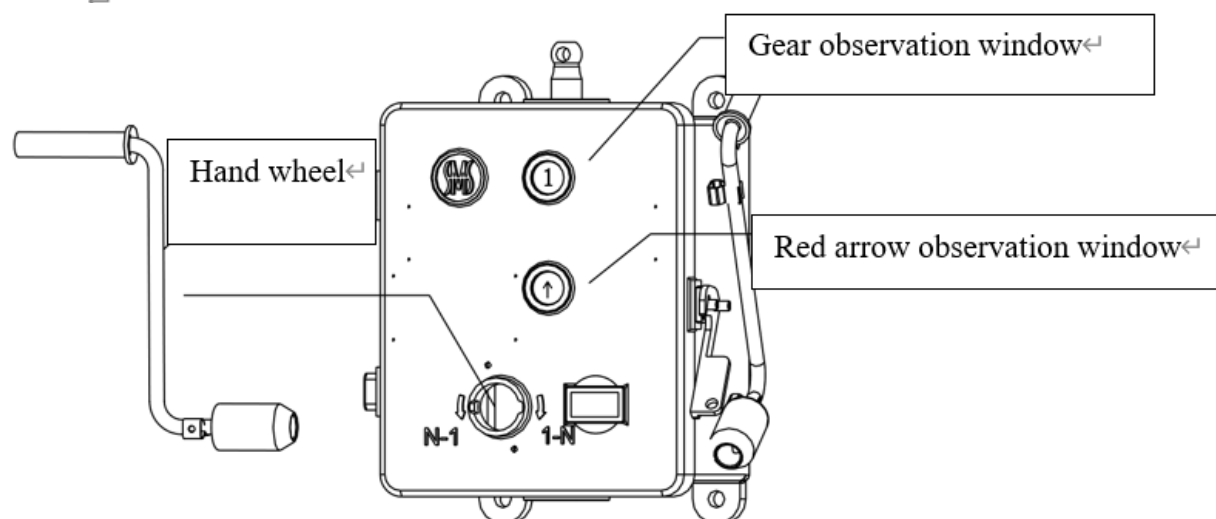

Figure 14 Turn the handwheel and confirm that the sign is aligned with the red arrow
9.1.2 Turn the hand wheel and observe from the observation window whether the arrow and the red arrow of the indicator are aligned. Alignment means that the gear is successfully changed. (See Figure 14)